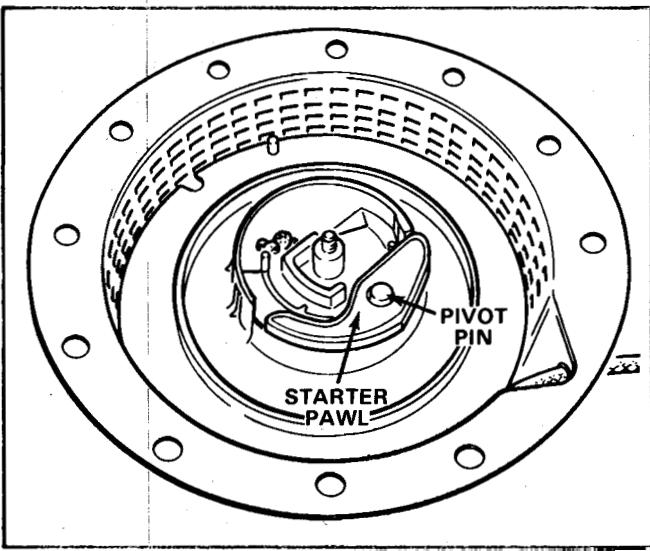

Figure 48
6. Install the starter pawl pivot pin. Then install the starter pawl. See Figure 48.